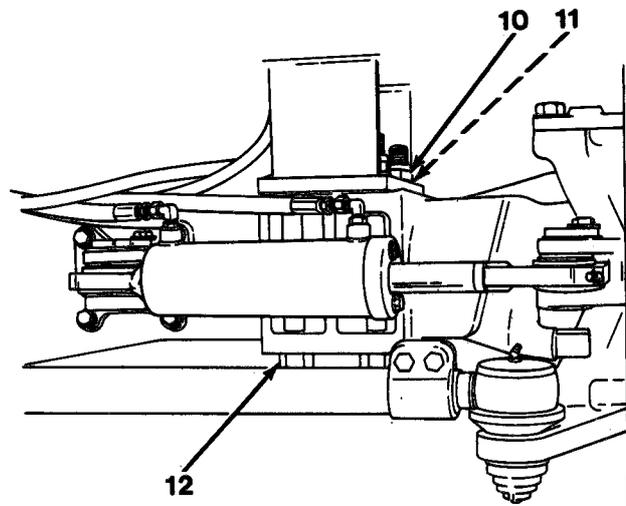

Figure 12-2
11. Using hydraulic floor jacks, support front axle (8).
12. Remove eight nuts (10), washers (11) and capscrews (12, Figure 12-2).
3. Install eight capscrews (12), washers (11) and nuts (10, Figure 12-2). Torque eight capscrews (12) to 500 lb-ft (678 N•m).